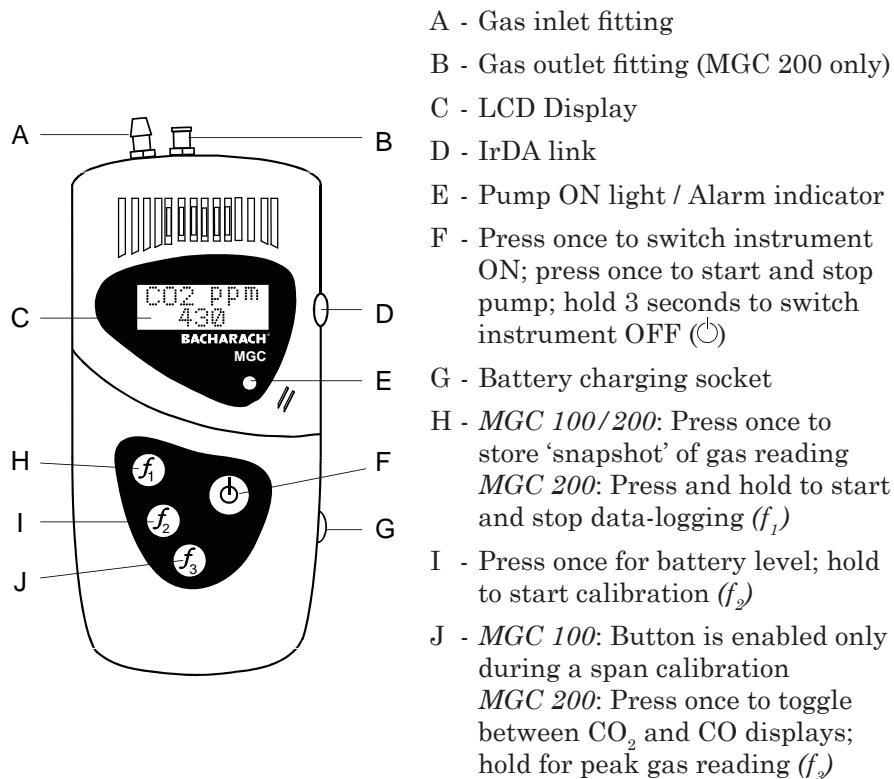

Figure 1. Components of the MGC 100/200
Always ensure that the instrument's gas outlet (Figure 1, Item B) is unobstructed and open to the atmosphere.
Switch ON the instrument by momentarily pressing the  button (Figure 1, Item F). Switch the instrument OFF by pressing the  button for at least 3 seconds, or until the display goes blank. When first switched ON, there is a warm-up period of approximately 5 minutes for the MGC 100 and a 1 minute warm-up period for the MGC 200 before gas readings are displayed. Note that normal fresh-air background readings of CO₂ is approximately 340 ppm.
3. Attach the other end of the plastic tubing to the instrument's gas inlet fitting (Figure 1, Item A). **Important!** *If the quality of the gas sample is suspect, protect the instrument by inserting the supplied PTFE particulate filter in-line using appropriate fittings and tubing.*
Depending on which model of the MGC is being used, the instrument is capable of displaying the current N_2O , or CO_2 and CO gas readings on its LCD (Figure 1, Item C) as follows:
When the detected gas percentage exceeds a predetermined level, the alarm indicator (Figure 1, Item E) flashes and the beeper sounds.
2. Plug the charger into the appropriate AC wall socket (or 12 VDC when using the optional in-car charger). Then plug the charger's output connector into the instrument's charging socket (Figure 1, Item G).
Before beginning the charging process, first ensure that the instrument is switched OFF. Next, plug the supplied charger into the appropriate AC wall socket (an optional 12 VDC charger with cigarette lighter adapter is also available). Then plug the charger’s output connector into the instrument’s charging socket (Figure 1, Item G).